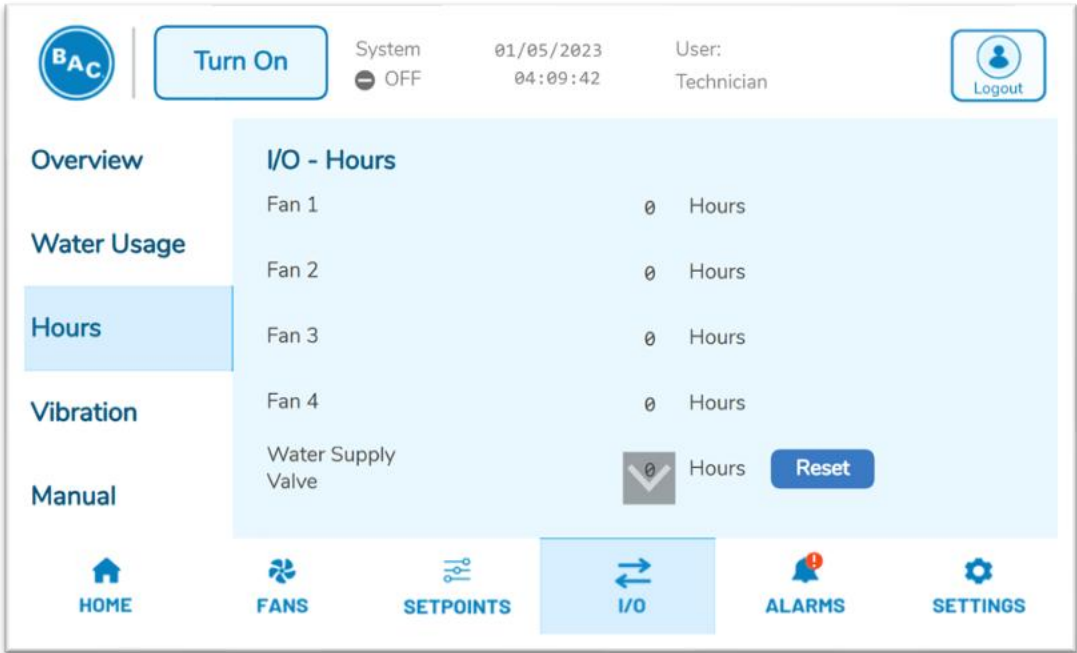
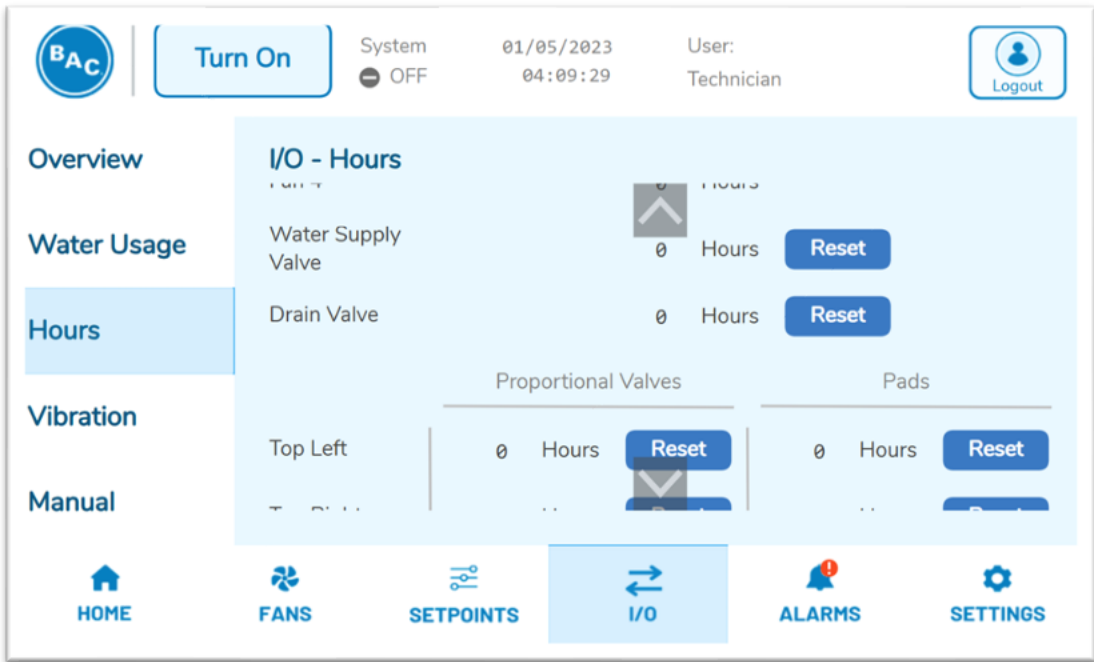

Figure 16. Device hours in Operation
Figure 17. Device hours in Operation (continued)
**Hours** – This screen shown in **Figure 16** and **Figure 17** displays how many hours each device has on it. For fans, these hours are counted since installation and start up. For the rest of the devices, the hours are counted since the last “Reset”.